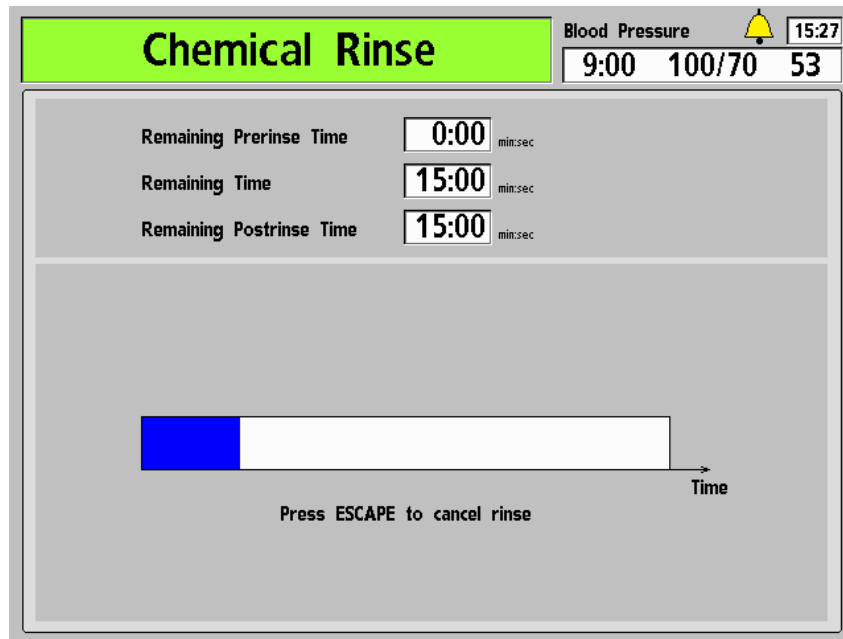

Figure 95 – The Chemical Rinse Screen
4. The “Chemical/Rinse” screen appears in the display (see Figure 95). The progress of the disinfection program is indicated by the horizontal bar. The program starts with a 45 second pre-rinse. The message, “Rinsing Lines, Please Wait” is displayed in the Status Box.